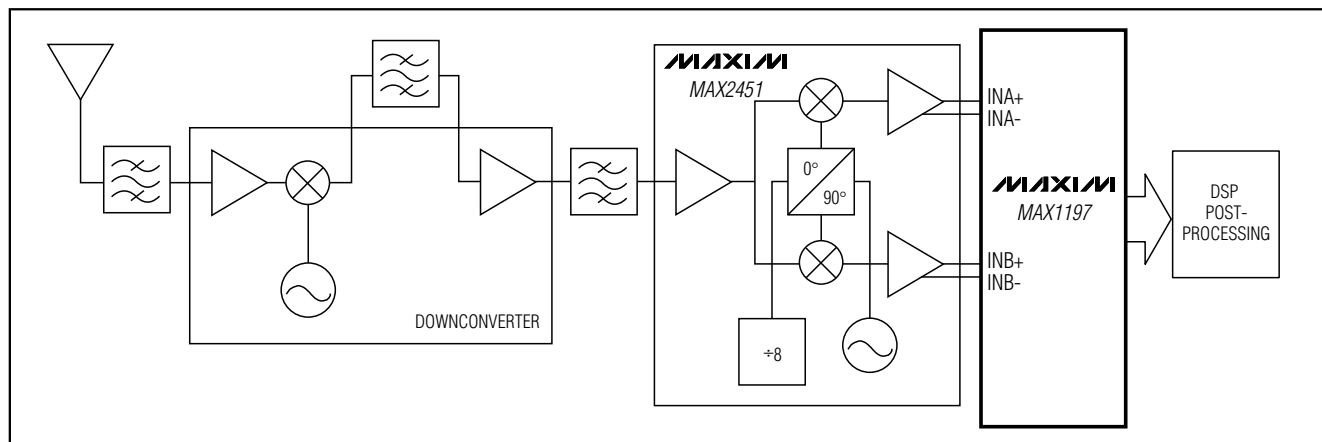

Figure 10. Typical QAM Application Using the MAX1197
modulation (QAM). Typically found in spread-spectrum-based systems, a QAM signal represents a carrier frequency modulated in both amplitude and phase. At the transmitter, modulating the baseband signal with quadrature outputs, a local oscillator followed by subsequent upconversion can generate the QAM signal. The result is an in-phase (I) and a quadrature (Q) carrier component, where the Q component is 90° phase shifted with respect to the in-phase component. At the receiver, the QAM signal is divided down into its I and Q components, essentially representing the modulation process reversed. Figure 10 displays the demodulation process performed in the analog domain, using the dual matched 3V, 8-bit ADC MAX1197 and the MAX2451 quadrature demodulator to recover and digitize